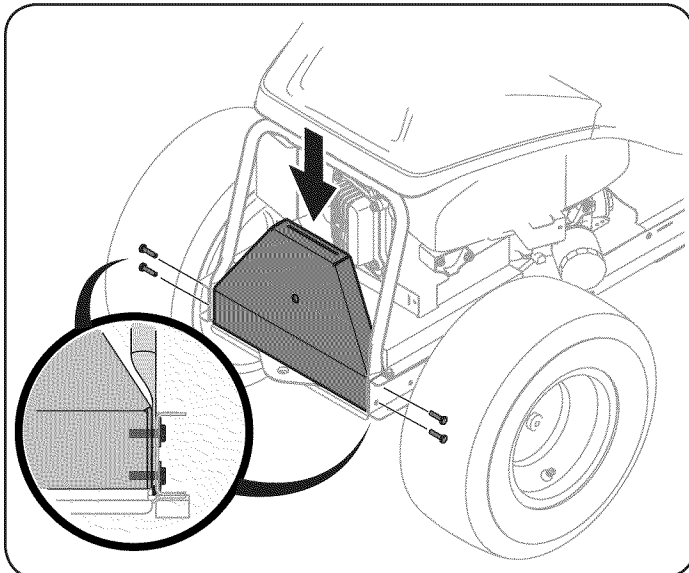

Figure 4
2. Install the bagger mounting bracket on the tractor, using four 710-3015 hex bolts from Hardware Pack 689-00210. See Fig. 4. Feed each hex bolt through the tractor frame, the rear hood mounting tube, and thread into the weld-nut on the bagger mounting bracket, as shown in Fig. 4.